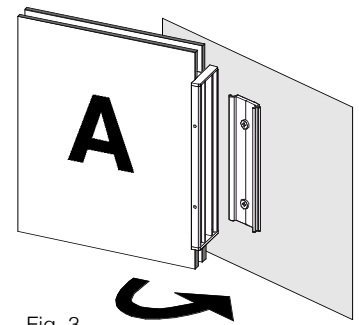

Fig. 3
3. Engage the 'hinge' edge of the CPMT in the radius area of the CPMA and rotate the sign assembly so that the CPMT and CPMA mate. (see fig. 3)